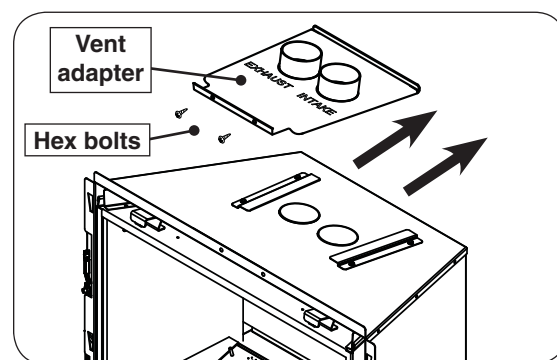

Fig. 25-2 Remove vent adapter
6. Remove the vent adapter from the top of the direct vent insert. Unfasten the two hex bolts using a $\frac{7}{16}$ " nut driver and slide the adapter out (see Fig. 25-2). Retain the bolts for future install.
Important: Ensure intake flex liner connects to intake portion of vent adapter, and exhaust liner connects to exhaust portion. The vent adapter is permanently marked, see Fig. 25-2.